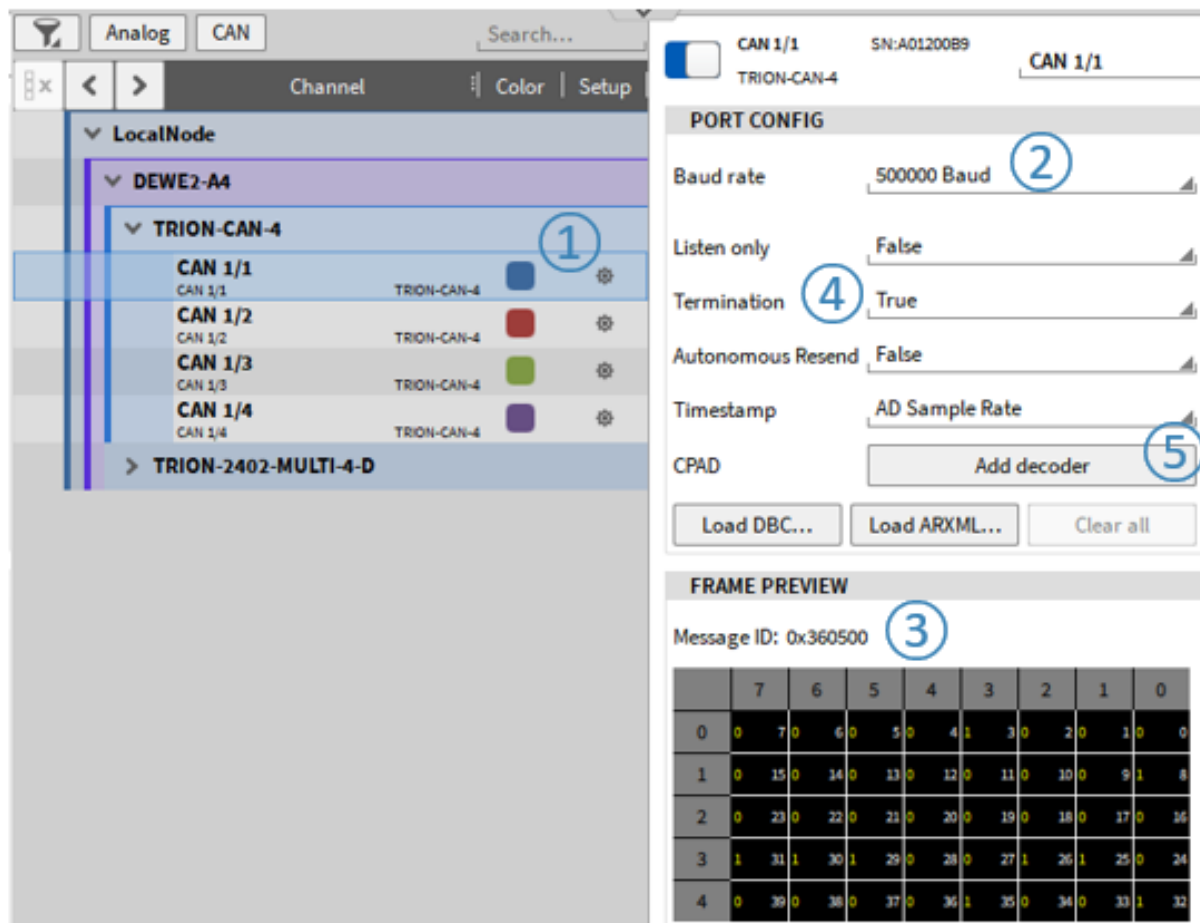
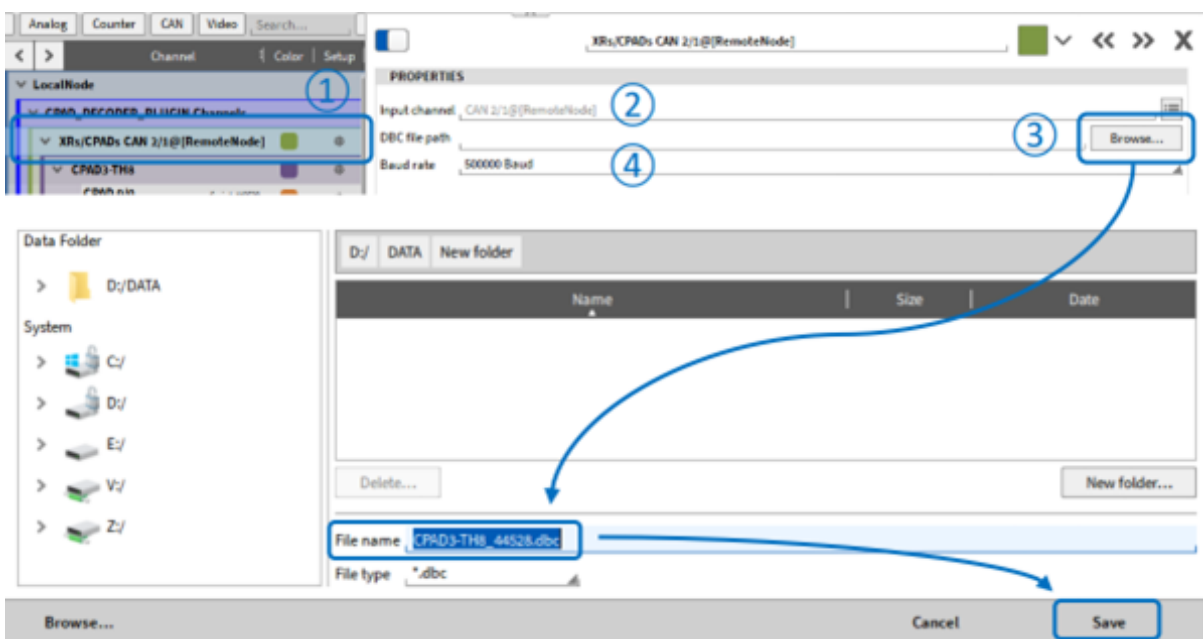

Fig. 4.32: Adding a CPAD decoder
Fig. 4.34: CPAD decoder settings
- Connect the CPAD to the desired CAN port and open its Channel settings in the Channel List (see ① in Fig. 4.32).
- Select the Baud rate of the CPAD (see ② in Fig. 4.32)
- If you don't know the CPAD's Baud rate change the Baud rates until the Frame Preview shows alternating Message IDs and frames (see ③ in Fig. 4.32)
- Make sure that the CAN bus is terminated with a 120 Ohm resistor or set the internal module termination to True (see ④ in Fig. 4.32)
- When the Baud rate is set up correctly press Add decoder (see ⑤ in Fig. 4.32)
After creating the CPAD decoder, the detected CPADs and their channel can be found in the channel list (see ① in Fig. 4.34). If desired, the referring CAN port can be changed (i.e. when a CPAD is connected to a different port) by selecting a different CAN port in ② in Fig. 4.34. The module baud rate can be changed here as well (see ④ in Fig. 4.34). Make sure to change the CAN bus baud rate as well to properly receive and decode data in ② of Fig. 4.32.
Additionally, the configuration of the CPAD / XR can be saved into a DBC-file here (see ③ in Fig. 4.34).